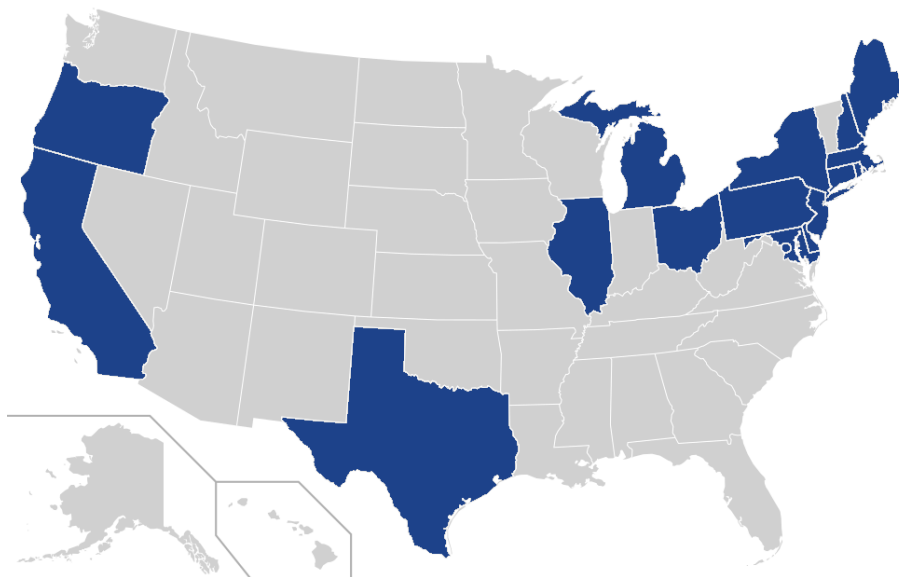

Figure 3: Deregulated or retail-choice electric markets (blue) in the United States.
Electricity markets have traditionally been **regulated power markets** where utility companies own and control all the equipment from generators through to your electric meter. Starting with the 1992 Energy Policy Act, however, some states have had the option to “deregulate” their power markets by separating electricity producers and distributors. In a **deregulated power market**, companies known as **retail electricity providers** (REPs) generate power for the electric grid that utility companies then distribute to customers by building and maintaining the transmission and distribution system. The two main goals for deregulating a power market are: (1) to lower energy prices through competition and (2) to promote green energy production by lowering barriers for green power projects. As of 2020, more than 15 states plus Washington D.C. have allowed deregulation of their electricity markets in some form⁴ (Figure 3). Local municipalities and cooperatives are often exempted from state deregulation laws.